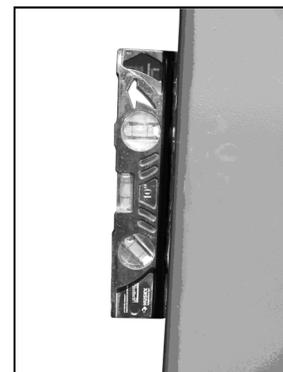

Fig. 7
6. Using a level, check column plumb for every side **(Fig. 7)**. If shimming is required, use supplied shim stock or 3/4" washers, placing shims as close as possible to the hole locations. This will prevent bending column bases.